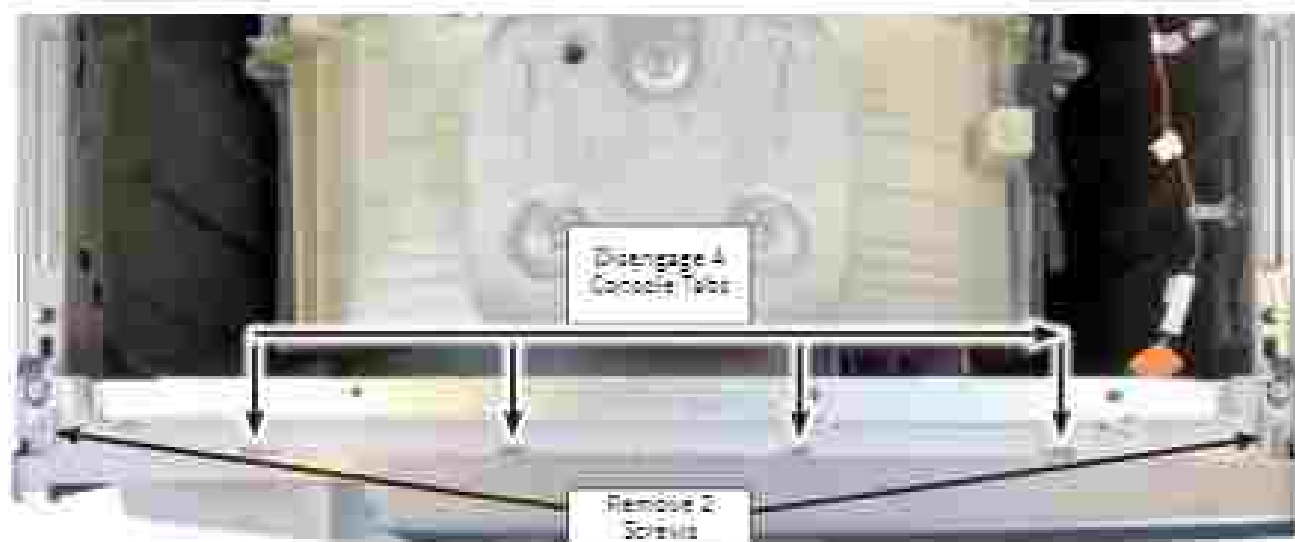

Figure 3 - Remove Front Console Screws
7. Using either a 1/4" hex-head, or T20 Torx driver, the two (2) screws securing the front console to the console bracket. See Figure 3 below.
8. Lift up on top edge of console to disengage the four (4) console tabs. Lift up and away from washer. See Figure 3 below.